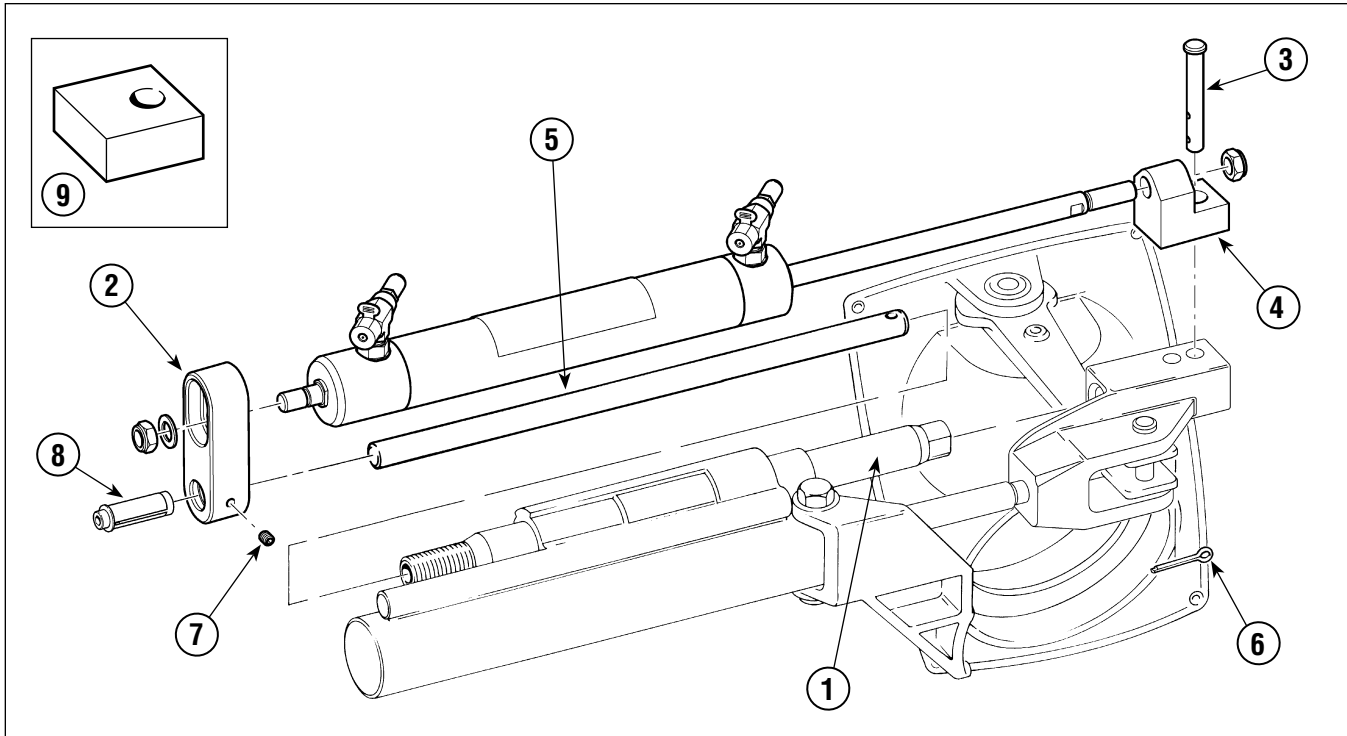

Figure 11. HC5331-3 (92-VPS), **NOT for use with SeaStar PRO helm(s).**
Referring to Figure 11 please observe the following:
Cut Clevis Pin, (item 3 Figure 11) to a length of 2" when mounting cylinder in lower position.